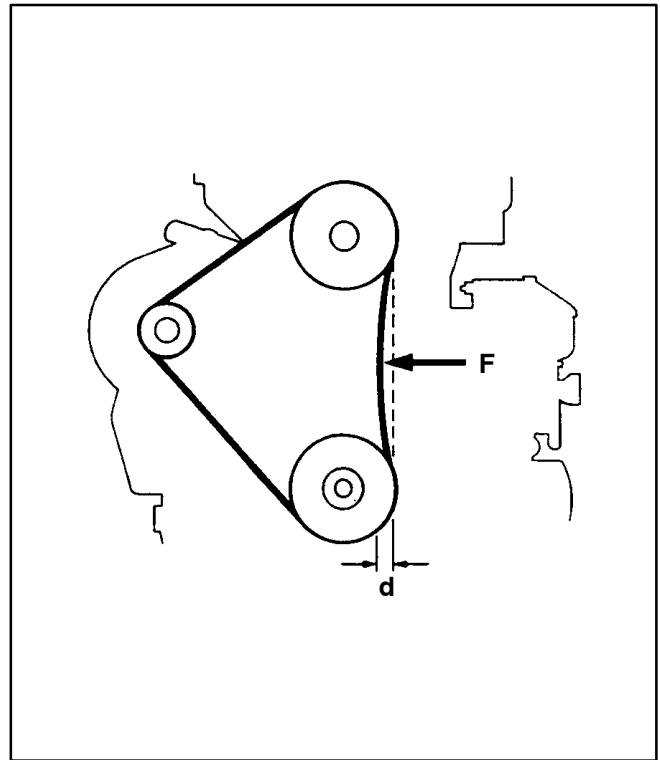

FIGURE 6-5. FAN BELT
To check belt tension, remove the belt guard and push the fan belt midway between the two pulleys shown in Figure 6-5. Use a spring balance to measure force (F) and a straight edge and ruler to measure belt deflection (d). Belt deflection should be 3.5 mm (0.14 in) under a force of 31.0-33.5 N (7.0-7.5 pounds [lbf]) for a new belt and 22.0-24.0 N (5.0-5.4 pounds [lbf]) for a used belt.